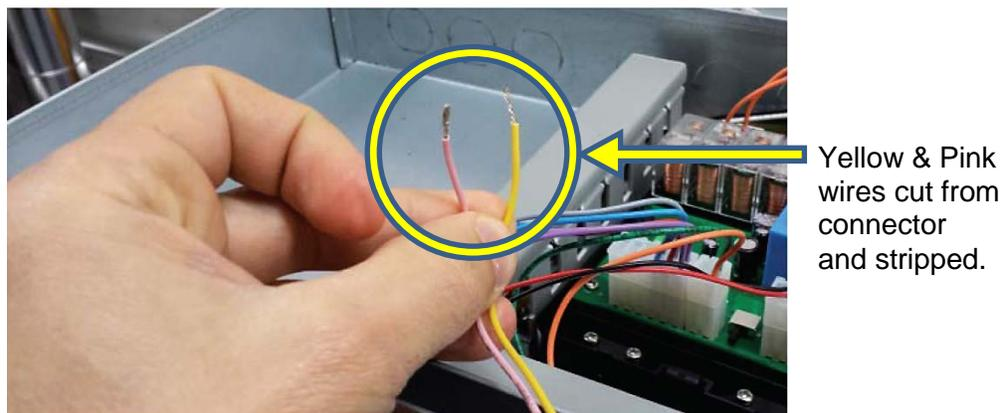

Figure 1-11: Removing 2-Wire Connector from Junction PCB
5. Cut the connector from the pink and yellow wires and strip the insulation 1/4" (7mm) (Figure 1-11).